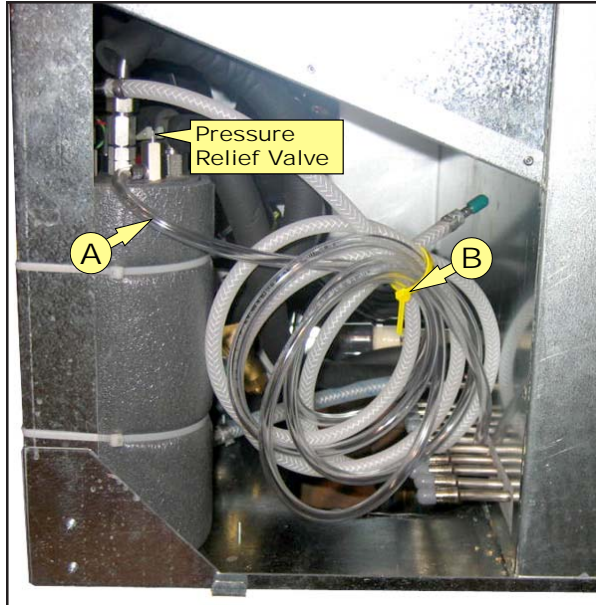

FIGURE 1
1. During installation of the LP-3 the carbonator tank purge tube (A) must be properly routed to a drain. The carbonator tank purge tube (A) may be accessed by removing the front panel of the LP-3. Clip the tie strap (B) and uncoil the purge tube (A). (see figure 1)